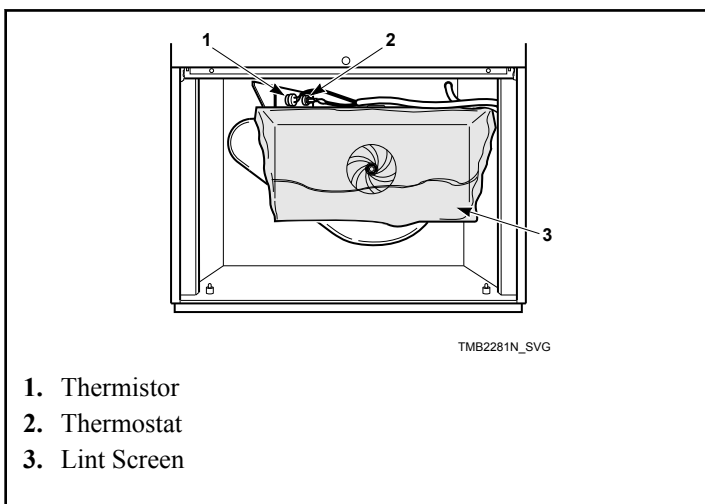

Figure 65
- e. Wipe lint off of the cabinet high limit thermostat and thermistor. Refer to *Figure 65*.